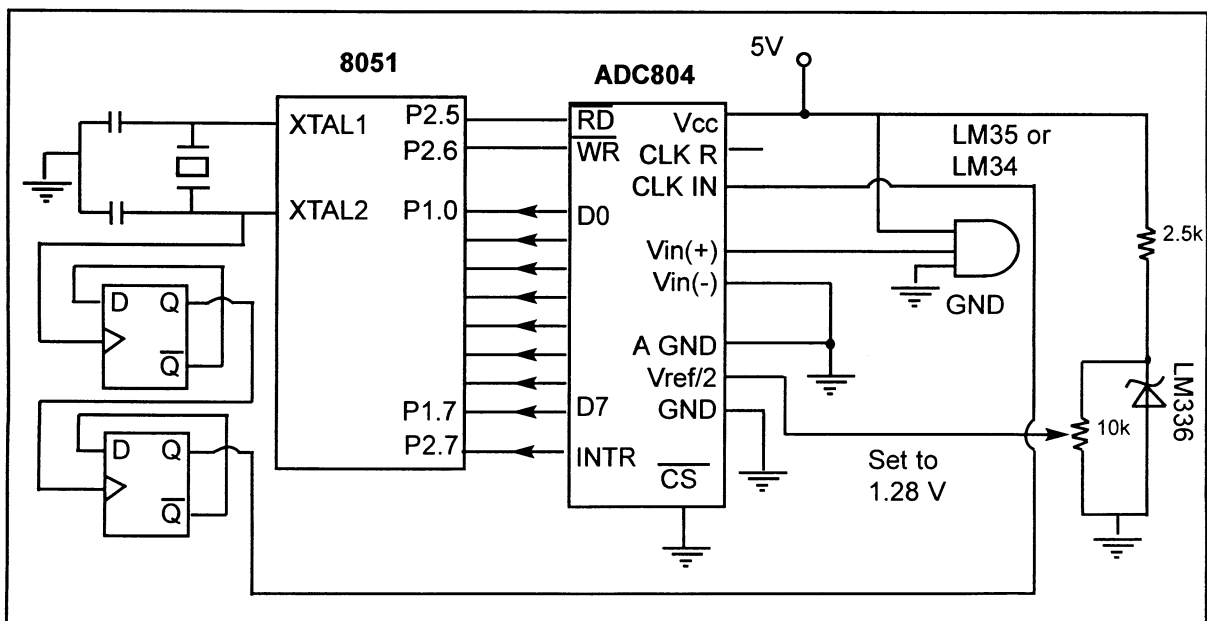

Figure 12-10. 8051 Connection to ADC804 and Temperature Sensor
Figure 12-10 shows connection of a temperature sensor to the ADC804. Notice that we use the LM336-2.5 zener diode to fix the voltage across the 10K pot at 2.5 volts. The use of the LM336-2.5 should overcome any fluctuations in the power supply.
35. What is the purpose of the LM336 Zener diode around the pot setting the  $V_{\text{ref}}/2$  in Figure 12-10?